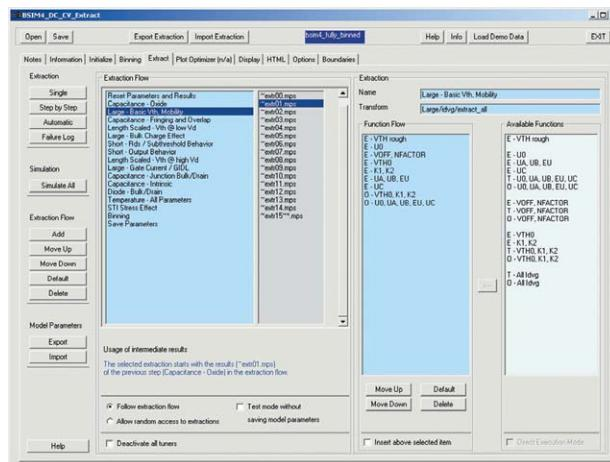

Figure 9: The automated binned model extraction flow.
- Open the Extract page and follow the binning extraction step-by-step or use automatic binned model extraction, as shown in Figure 9.